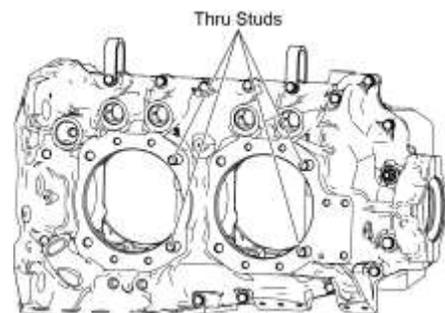

Figure 86
- (9) Lubricate each crankcase thru-stud with the specified lubricant identified in the latest revision of Service Instruction No. SI-1029.
- (10) Install thru-studs on the crankcase in the specified locations in Figure 86 where the studs extend equally on both sides of the crankcase. (An optional Crankcase Thru-Stud Driver ST-317 can be used to install thru-studs.)